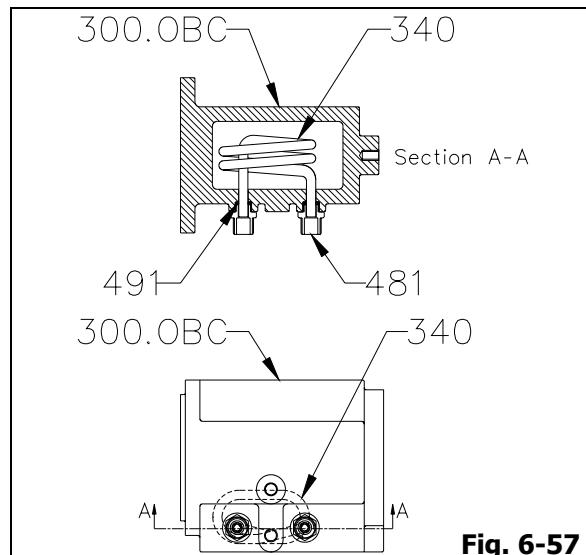

Fig. 6-57
1. For bearing frame with oil bath cooling (300.OBC), install bearing frame cooling coil (340) into bearing frame (300.OBC). Install two (2) cooling coil "O" rings (491) and cooling coil adaptors (481) into bearing frame (300.OBC) (Fig. 6-57).